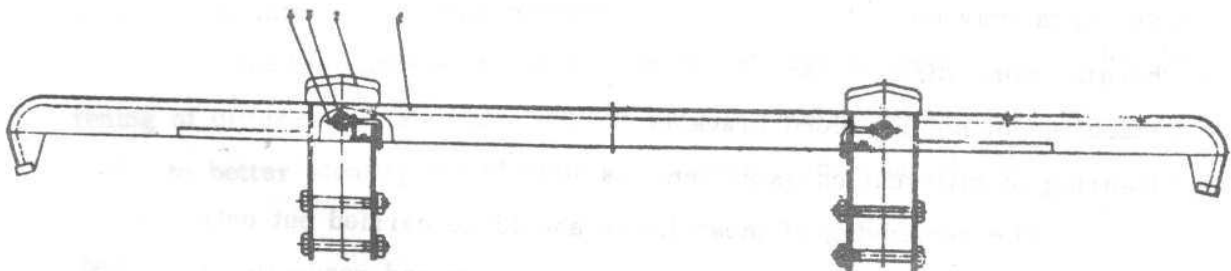

Fig. 4.158. FRONT BUMPER ASSY
- Lift the vehicle on an inspecting ramp and unscrew the two M 8 nuts, behind the buffer clamping plate (see Fig. 4.158).